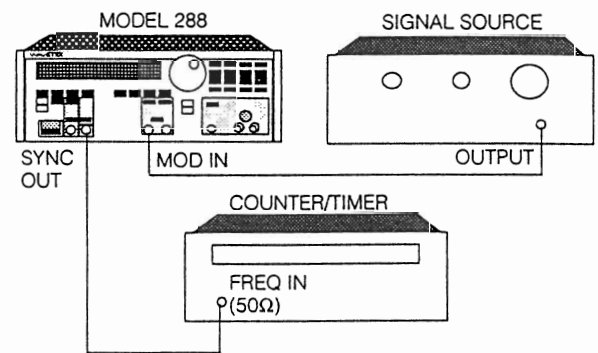

Figure 2-3. VC/FM Setup
2. Connect the Model 288 and test equipment as shown in figure 2-3.